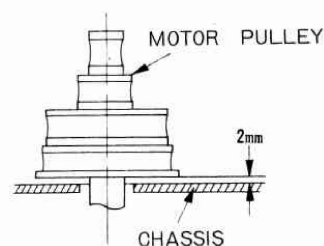

Fig. 45
- c) Height adjustment of motor pulley (Fig. 45)